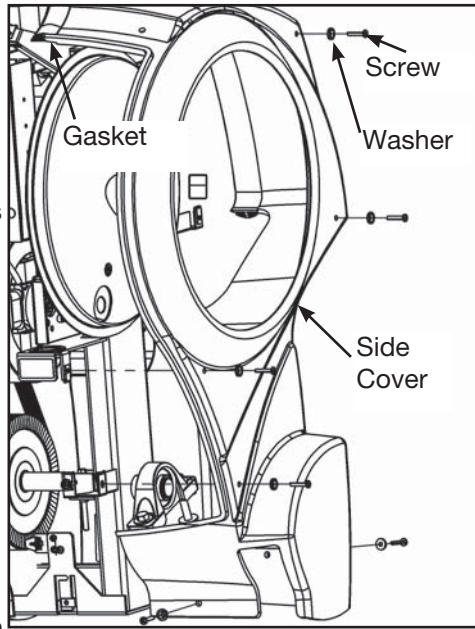

Figure 4
- A.** Remove the six screws and six washers securing each side cover in place. See Figure 4.
- B. Using a Phillips head screwdriver, tighten the six screws and six washers securing each side cover. See Figure 4.